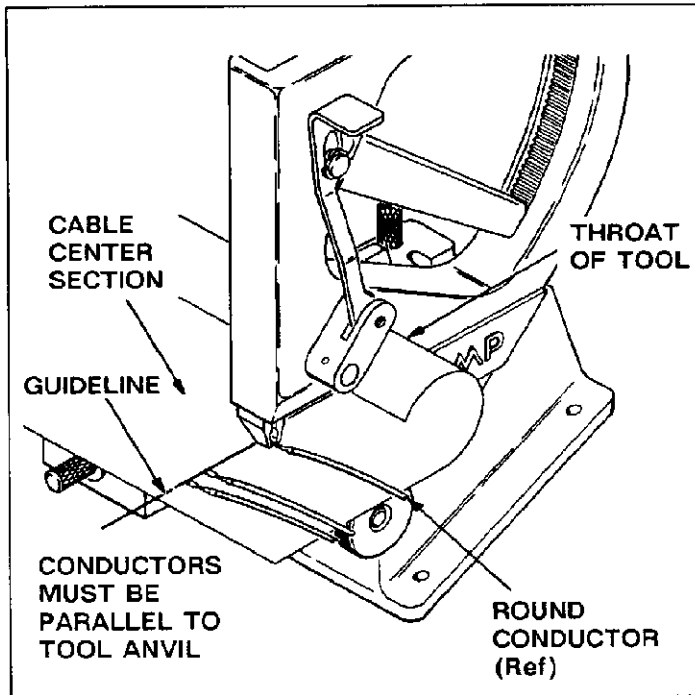

Fig. 5
2. Depress the lifter and insert the cable. If necessary, roll the cable around the throat of the tool as shown in Figure 5.